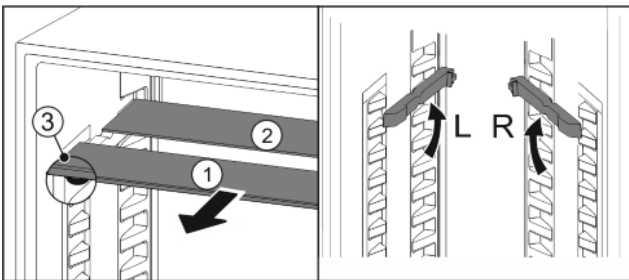

Fig. 19
- Pull the glass panels out Fig. 19 (1) from the front, one at a time.
- ▷ Glass panel Fig. 19 (1) with pull-out stoppers is at the front.
- ▷ Stoppers are pointing down Fig. 19 (3).